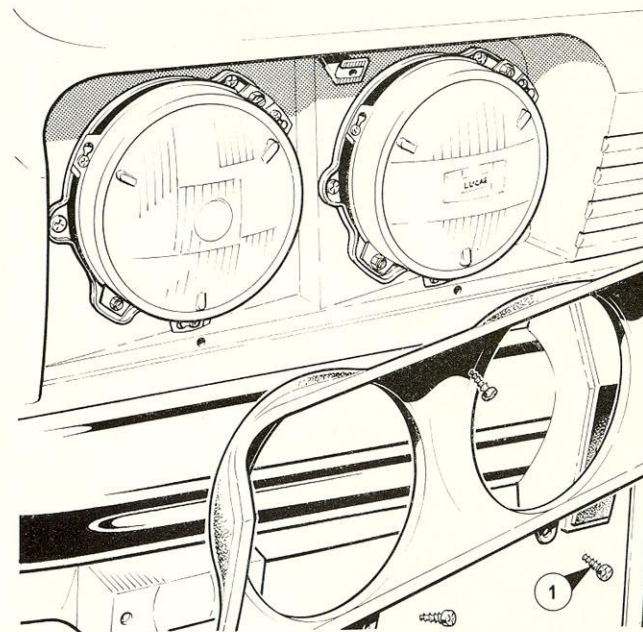

Figure 34 Headlamps
Access is gained by removing the three Phillips screws securing the lamp unit cowl as shown in **Figure 34** (1).